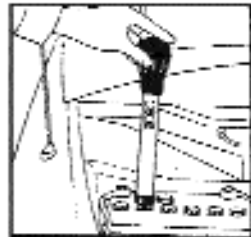

Figure 3
8. Using the battery hydrometer, check each cell for specific gravity (Figure 3). Insert the hydrometer into the first cell and draw out enough fluid to float the balls. Record the reading and replace the fluid. Go on to each cell in turn and repeat the procedure. The reading in each cell should be 1.250 or higher and should not vary more than 10% from any other given cell. If one or more cells have a low reading, charge the battery and retest. If the readings are still low, replace the battery.